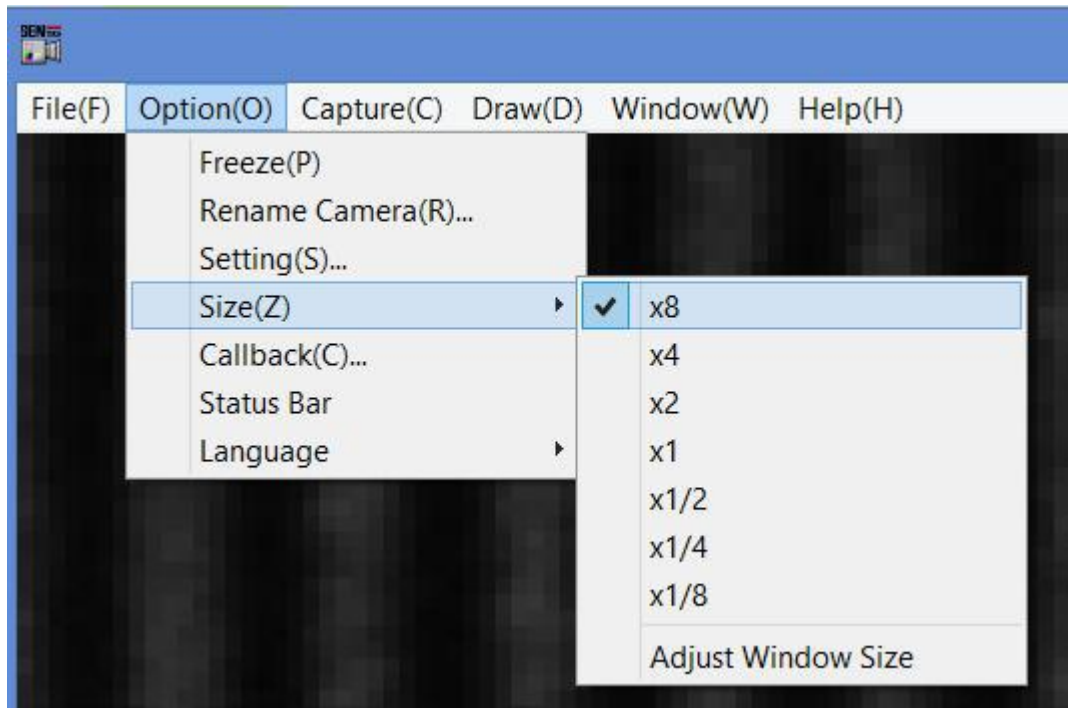

Figure 50 StcamSware GUI
49. Then, Go to StCamSware GUI ->Option and Select Size (Z) “x 8” as below Figure 50.